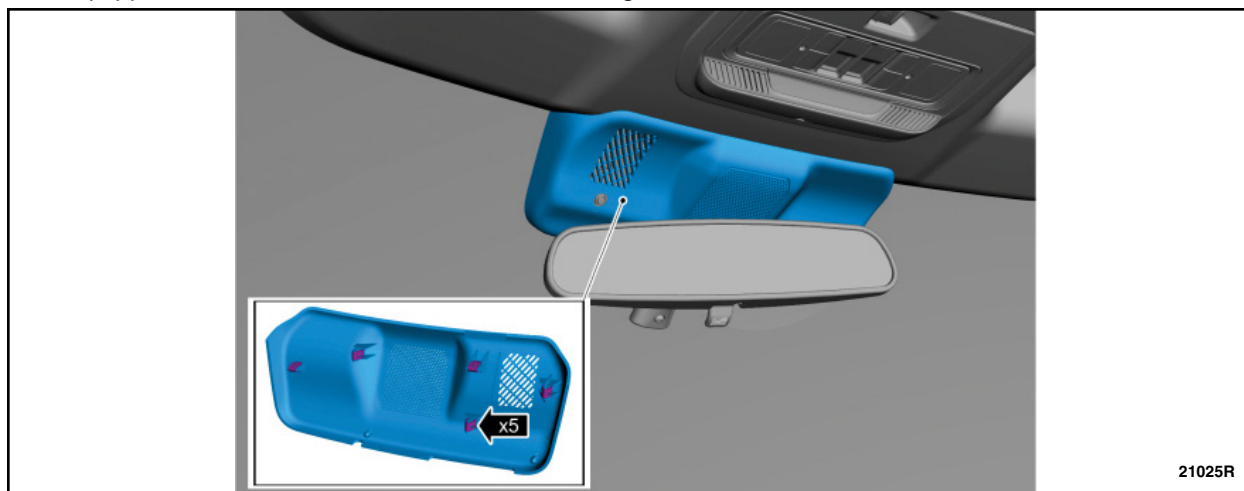

FIGURE 9
9. If equipped, remove the rain sensor cover. See Figure 9.